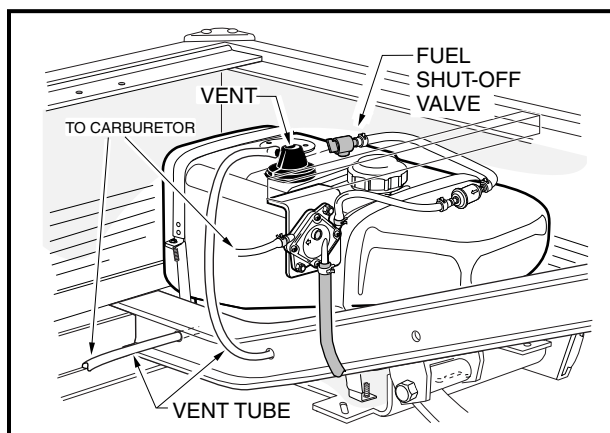

Figure 17 Fuel Tank
- If the vehicle has an all-weather enclosure installed, be sure the fuel tank is properly vented as shown (Figure 17).